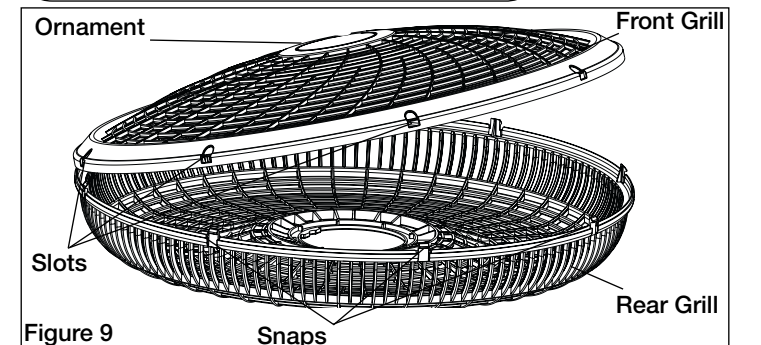

Figure 9
11. With fan head in upright position, align Ornament of Front Grill so it is horizontal and right side up. By starting with the top of the grill and working down, insert Snaps on Rear Grill through Slots in Front Grill. (Figure 9)